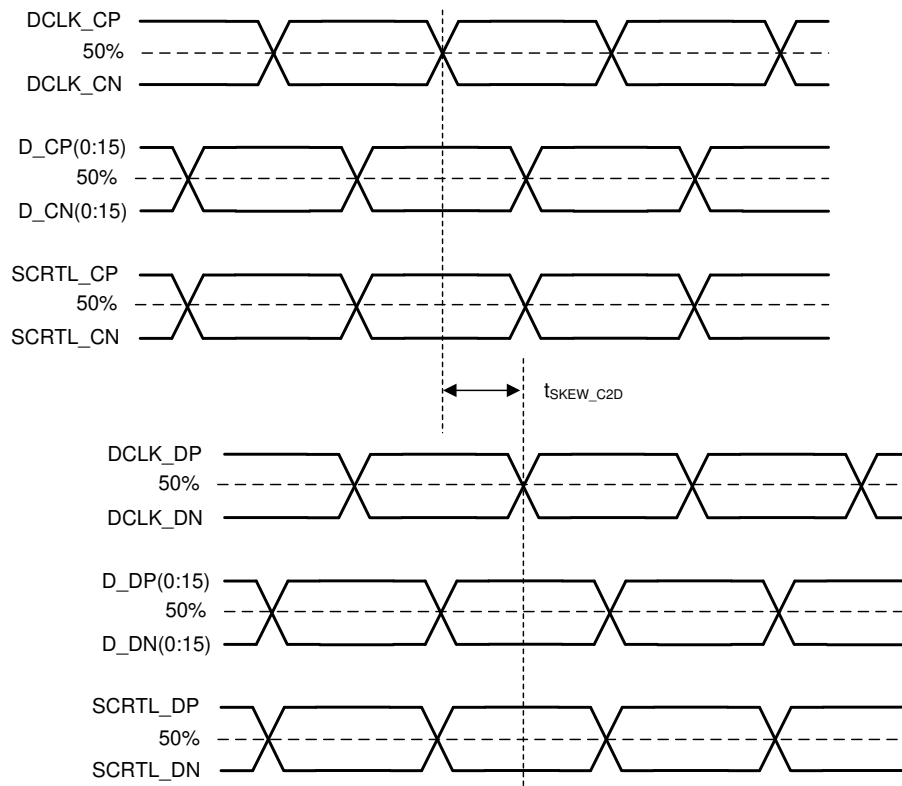

Figure 6-8. LVDS Skew Parameters
(5) See Figure 6-8.
(6) Channel C (Bus C) includes the following LVDS pairs: DCLK_C, SCTRL_C, and D_C
(7) Channel D (Bus D) includes the following LVDS pairs: DCLK_D, SCTRL_D, and D_D.